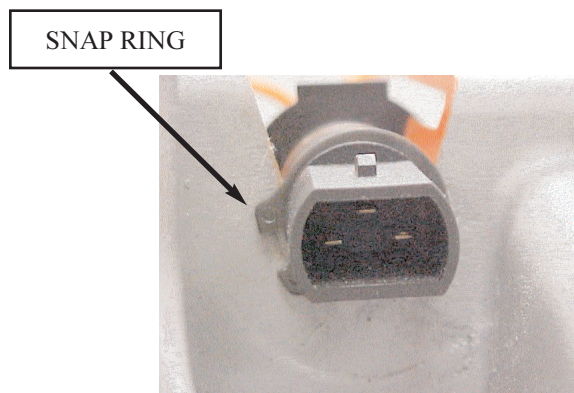

FIGURE 2
9. Retain the case connector by placing the supplied external snap ring into the groove on the connector. **See FIGURE 2.**